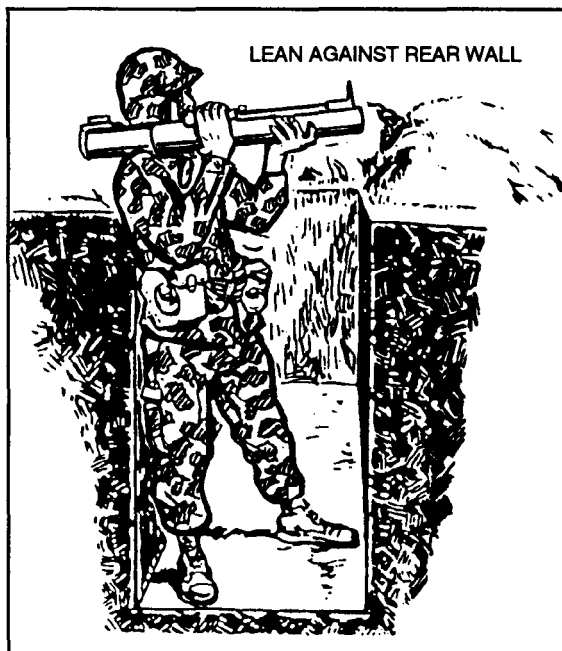
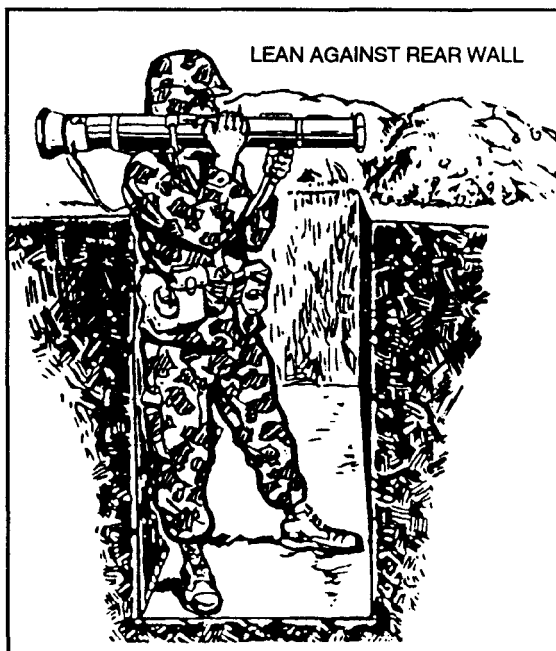

Figure 5-2. Modified standing position, M72-series LAW.
Figure 5-3. Modified standing position, M136 AT4.
b. Modified Standing Position. Use this position when you occupy an infantry fighting position. Assume the basic standing position, but instead of stepping forward, lean against the back wall of the fighting position. Ensure that the venturi or rear of the weapon extends beyond the rear of the fighting position. Figure 5-2 shows the modified standing position for the M72-series LAW, Figure 5-3 shows the modified standing position for the M136 AT4. Ensure that NONE of the following are in your backblast area: